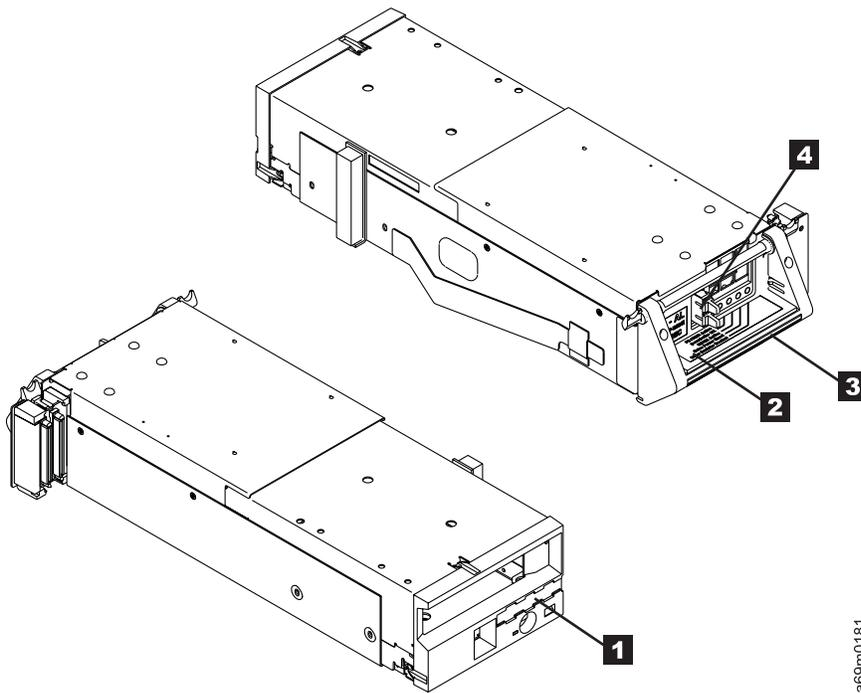

Figure 113. Drive Canister Assembly– LTO Fibre Hot Swap
4. Refer to Figure 113 on page 595. Unplug the fibre cable **4**.